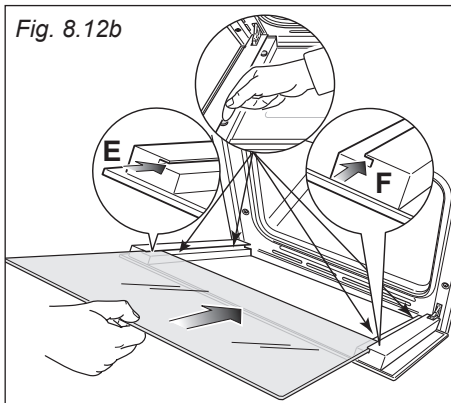
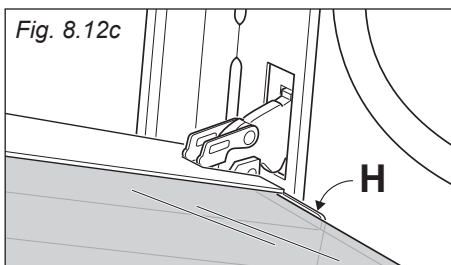

Fig. 8.12b
Fig. 8.12c
**IMPORTANT:** It is advisable, while refitting the glass, to keep pressed in position the four rubber pads "D", by a finger, to avoid breakage or slippage of the rubber pads themselves (fig. 8.12b).
- Insert the pane in the left "E" and right "F" slide guides (fig. 8.12b), and gently slide it to the retainers "H" (fig. 8.12c).